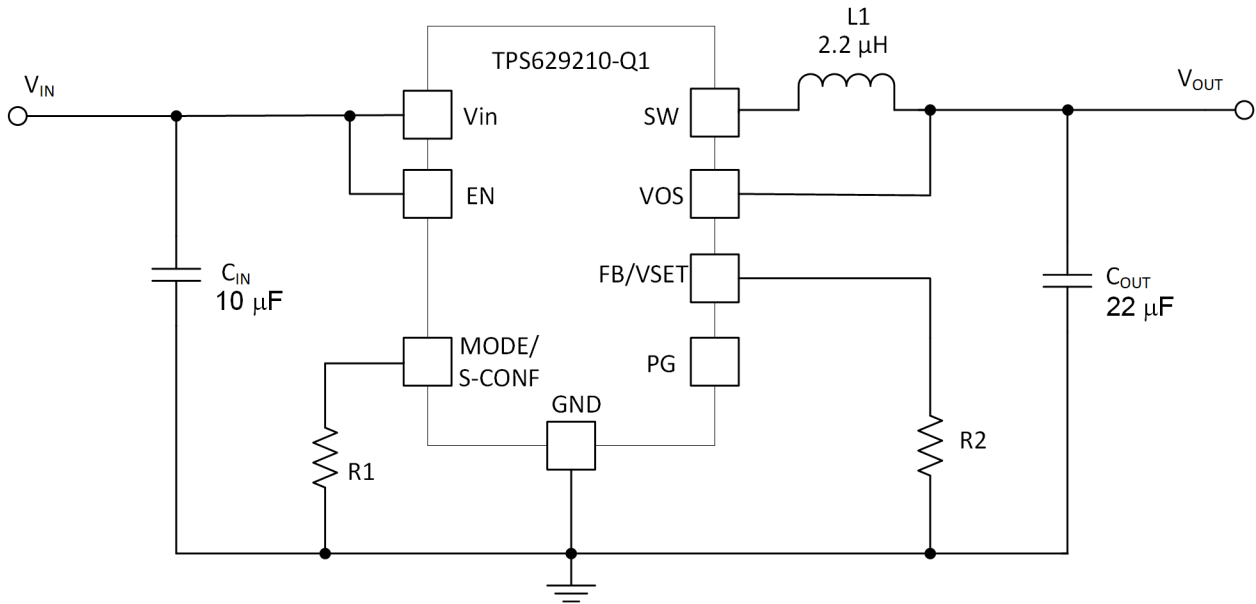

Figure 1-1. TPS629210-Q1 Buck Topology
The inverting buck – boost topology is very similar to the buck topology. In the buck configuration shown in Figure 1-1, the positive connection ( $V_{OUT}$ ) is connected to the inductor and the return is connected to the integrated circuit (IC) ground. However, in the inverting buck – boost configuration shown in Figure 1-2, the IC ground is used as the negative output voltage (labeled as  $-V_{OUT}$ ). What used to be the positive output in buck configuration is used as the ground (GND). This inverting buck – boost topology allows the output voltage to be inverted and is always lower than the ground.